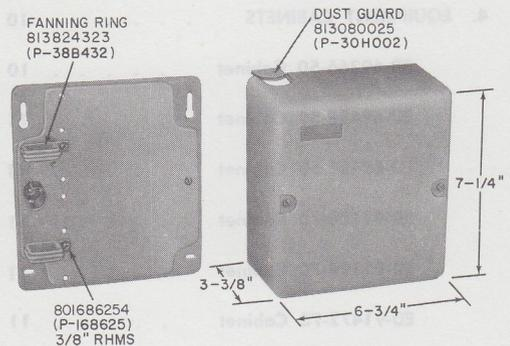

Fig. 1—105-Type Apparatus Box
2.01 The 105-type apparatus box (Fig. 1) is a metal base with a cover designed to mount four single- or two double-space angle-bracket type key telephone units (KTUs). Two fanning rings are furnished with each box.